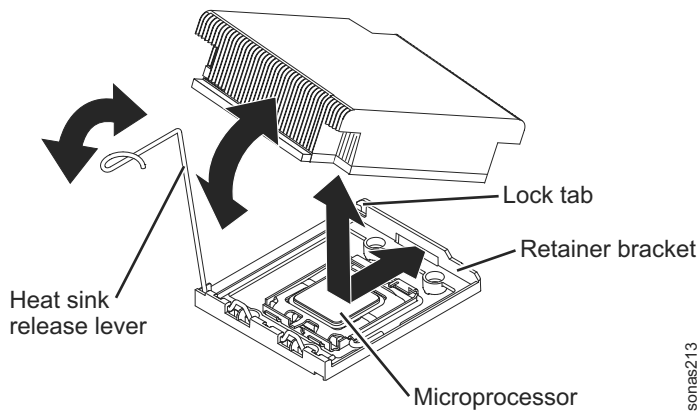

Figure 42. Heat-sink release lever
5. Open the heat-sink release lever to the fully open position. See Figure 42.